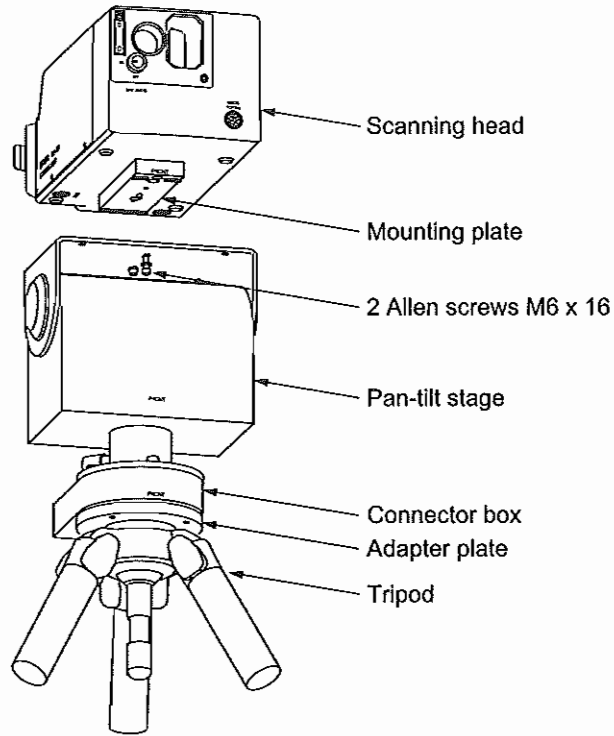

Figure 3.21: Mounting the scanning head on the pan-tilt stage
13. Then mount the scanning head with its mounting plate on the pan-tilt stage using 2 Allen screws M6x16 and the washers as shown in FIGURE 3.21.